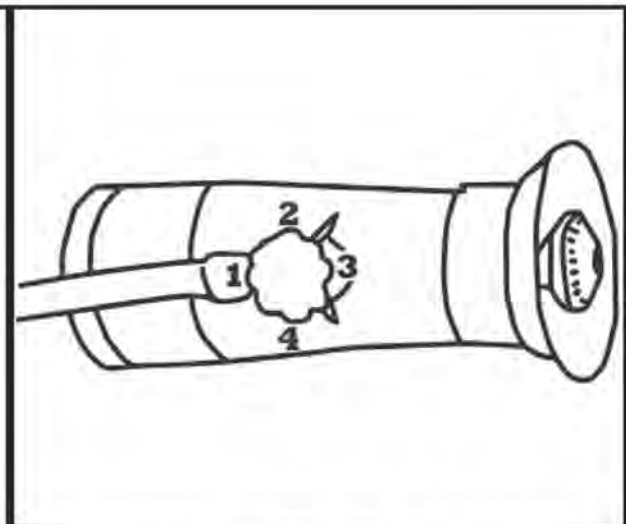

FIGURE 6
4. **Spray Pattern**- To adjust spray pattern use the small knob on the horn nozzle. 1 being the least amount of flow and 4 being the most. See Figure 6.